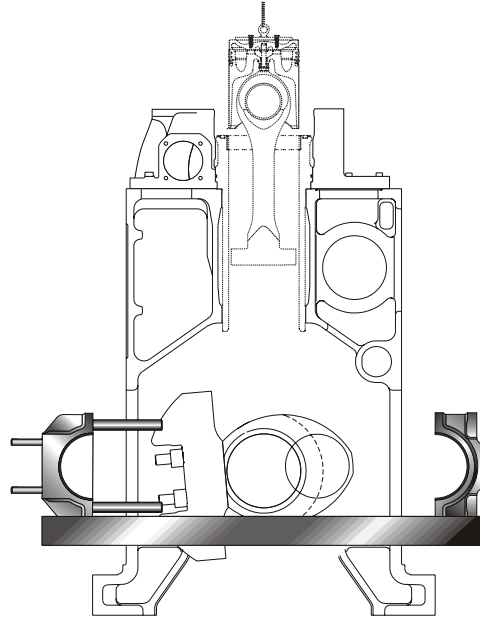

Fig 7. Dismounting of big end parts (대단부의 분해)
6. Dismantle the big end upper and lower part, and take out them from the engine block as shown in fig. 7.